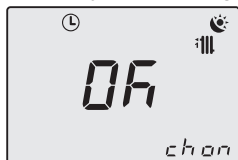

Fig. 2.20
Press key 18 briefly to save (Fig. 2.20).